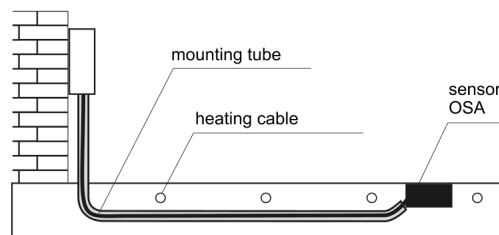

Figure 2. Method of mounting the precipitation sensor when heating the soil
- position the sensor in the concrete base, at the same level as the heated surface (Fig. 2). The foundation beneath the sensor installation site should be solid. This is necessary to prevent the sensor from being compressed into the ground under heavy loads from above;